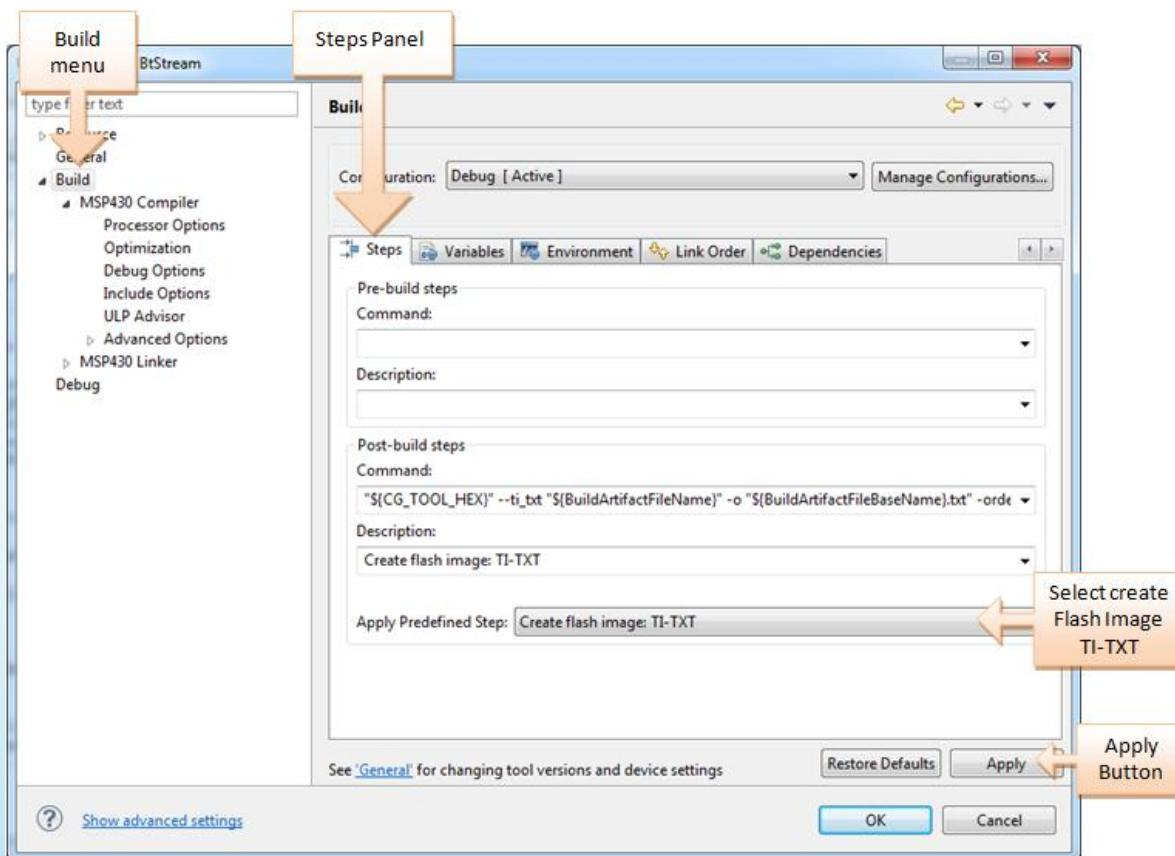

Figure 5-3 Creating an output TXT file using Code Composer for custom firmware programming with the Shimmer3 BSL application.
2. As shown in Figure 5-3, select the "Build" menu in the left panel and then select the "Steps" panel on the right.